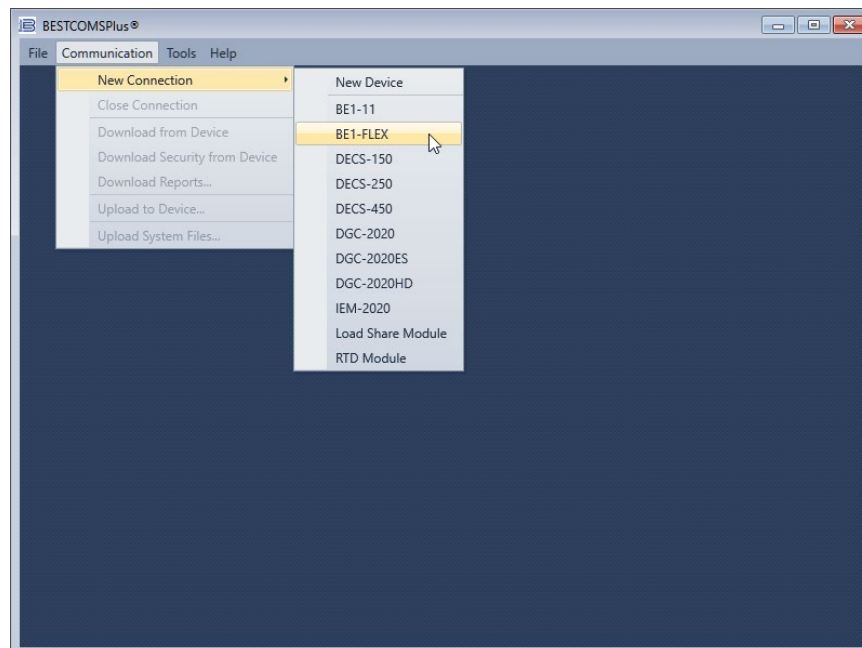
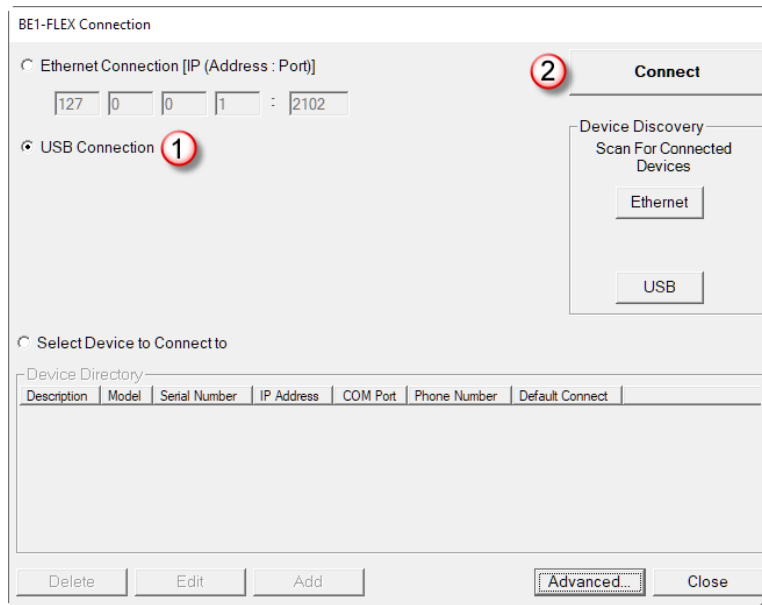

Figure 2-3. Communication Pull-Down Menu
Figure 2-4. BE1-FLEX Connection Screen
The *BESTCOMSPi* platform window opens. Select New Connection from the Communication pull-down menu and select BE1-FLEX. See Figure 2-3. The BE1-FLEX Connection screen shown in Figure 2-4 appears.
- Step 1: Start BESTCOMSP*lus* and select New Connection, BE1-FLEX from the Communication pull-down menu to connect to the device. See Figure 2-3.
- Step 2: The BE1-FLEX Connection screen appears. See Figure 2-4. Select USB Connection and click Connect.